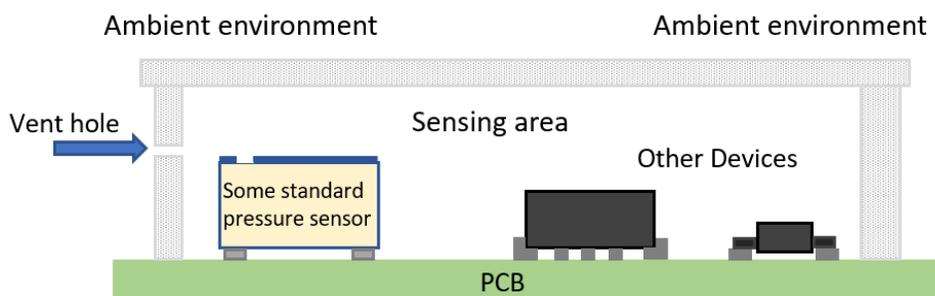
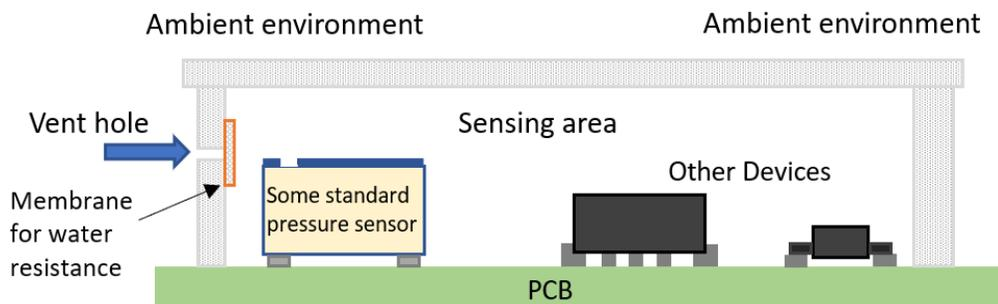
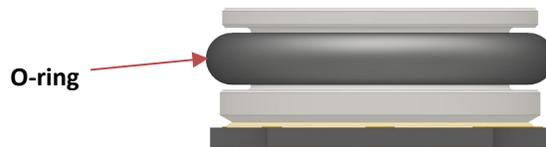
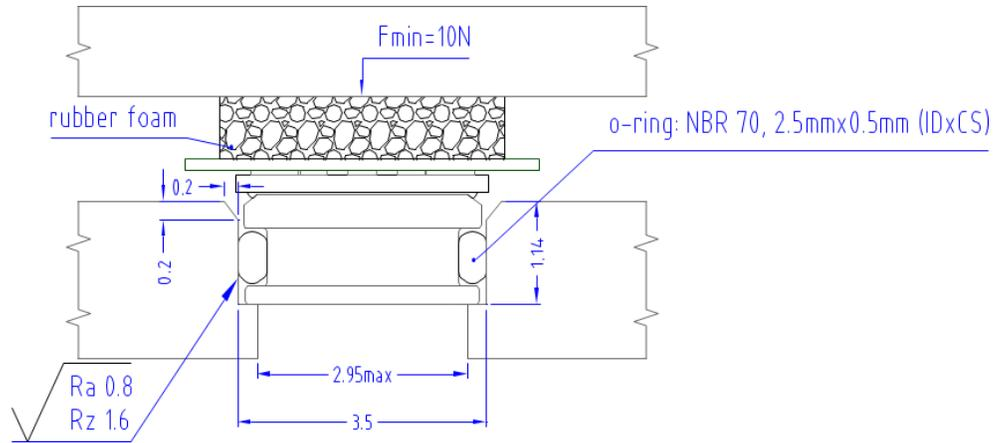

Figure 1. Standard Pressure Sensor Integration
Figure 2. Standard Pressure Sensor Integration with Membrane
Figure 6. O-ring Installed on the Sensor
Figure 7. O-ring and Housing Dimensions
Many devices such as smartphones and sports watches can use the ICP-10125 pressure and temperature sensor without compromising on reliability and performance. The ICP-10125 sensor can be integrated into various systems by avoiding mechanical and physical parameters that may influence the performance. Figure 1 and Figure 2 show examples of standard integration of the pressure sensor with and without the membrane, which is used to add extra insulation and water resistance. The sensor is not in direct contact with the environment when the membrane is added. Without the membrane, sensor would be prone to collect dust, water, and other debris from the environment, which could cause potential failure.
An O-ring will be required around the pressure sensor to create a waterproof design and to protect other devices in the system. This could also eliminate the need to have a water-resistant membrane as shown in Figure 2. The O-ring is placed at the groove location as shown in Figure 6.
1. O-ring has dimensions of 2.5 mm X 0.5 mm. Figure 6 shows an overview of the O-ring. The O-ring thickness is sized in order to fit housing and to apply a sealing force for resisting to 10 bar fluidic pressure according to device specification. Nitrile / NBR is the most common material used for making the O-rings. It is widely used in many applications for fuel and oil resistant system designs. Nitrile compounds are superior to most elastomers because they provide tear, and abrasion resistance. Customer can also choose other material based on their application and housing size. Care should be taken to avoid damage to the O-ring during mounting. Lubrication may be considered if necessary, to facilitate insertion. Below, figure 7, shows the O-ring and sensor body dimensions.